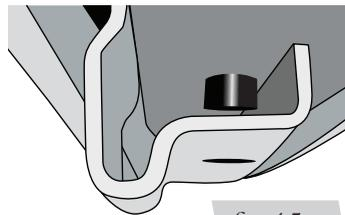

fig. 15a
2. Two spacer (BB or CC) lengths are supplied to properly fit between the frame jounce bumper bracket and frame. Which one is used depends on the model. Use the spacer that can be inserted where the stock jounce bumper was removed, which when butted against the frame, will be flush (or close to) the bottom of the jounce bumper bracket that is riveted to the frame (Figs. 15a, 15b & 15c).